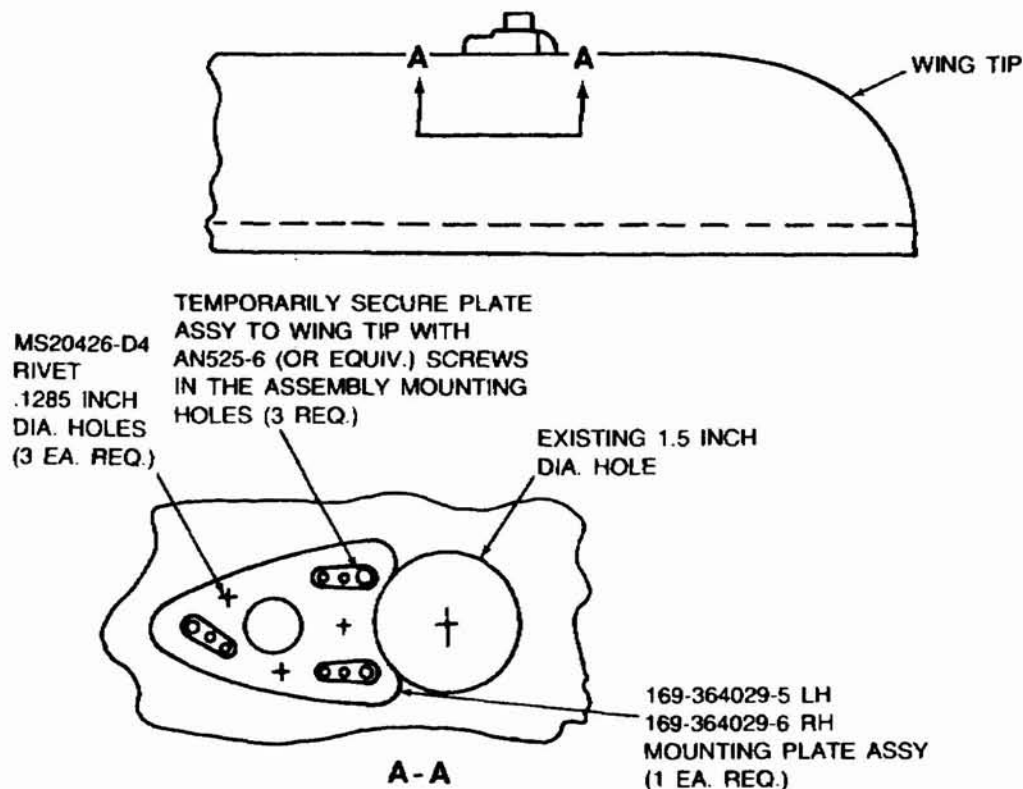
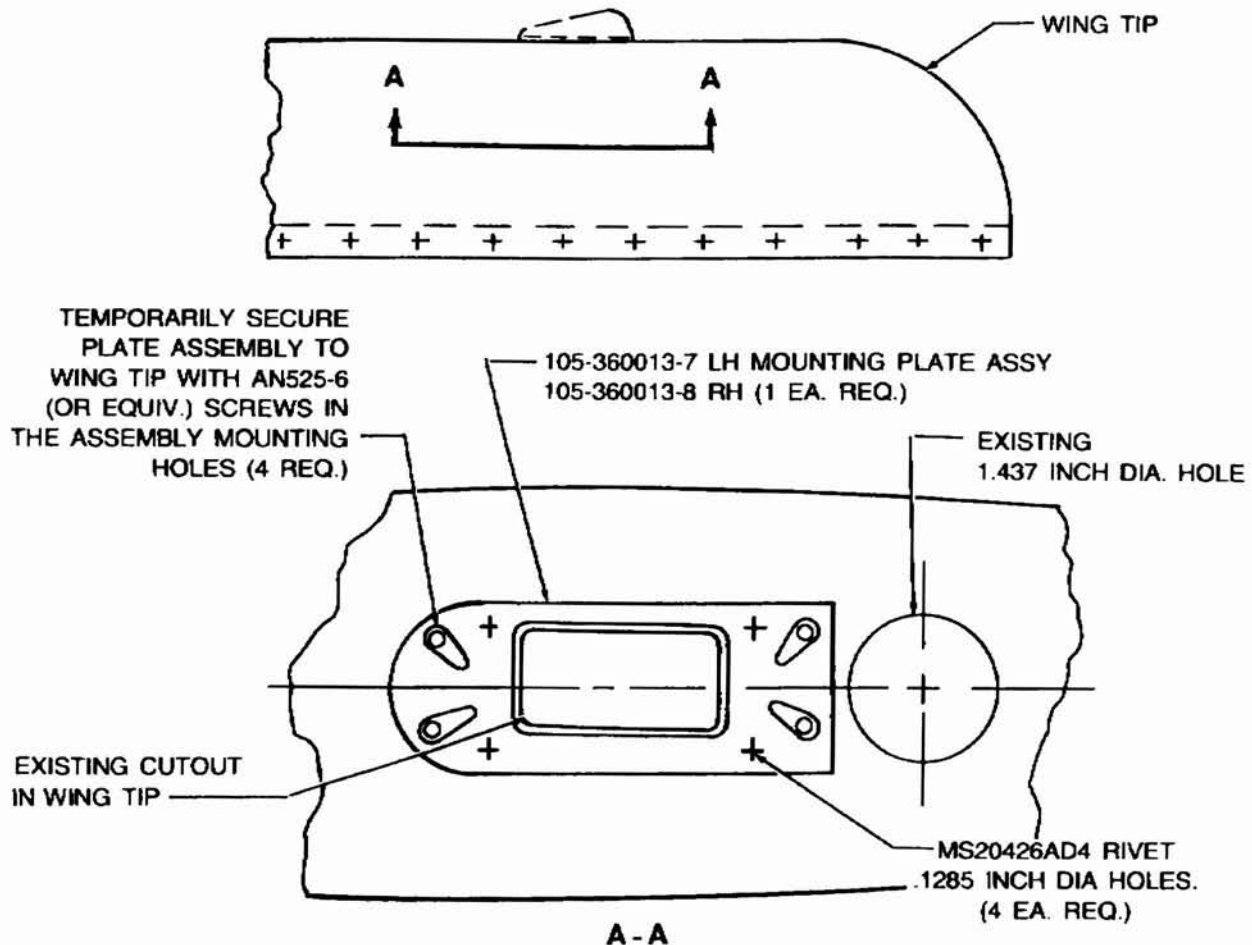

Figure 1. All 19, 23 and 24 Series Airplanes.
Figure 2. All 76 Series Airplanes.
3. Position the applicable new (see MATERIAL for correct part number) mounting plate assembly over the nav/strobe light opening inside the wing tip and temporarily secure the plate assembly to the wing tip with AN525-6 (or equivalent) screws in the light assembly mounting holes. (See figure 1 or figure 2 as applicable.)